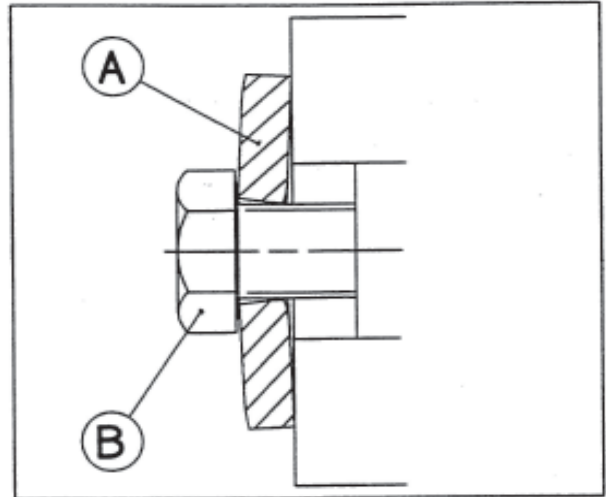

Fig. 2
Attach the frame to the cutterbar using 2 self locking screws (B) (M 16 x 50) and 2 washers (A) (diameter 16,5 x 60) as shown in photo 2 and fig.2. **Torque : 30 daNm / 220 ft.lbs.**
- Fix the inner deflector shield (S) (photo 8 A) using 3 cup square bolts (T) (M 10 x 20), 3 plain washers (diameter 11 x 24 x 2) and 3 self locking nuts (M 10). To assemble the shield (S) easily, install all of the bolts (T) into place before tightening them.
- Attach the outer disc with cone using 4 hexagon screws (M 12 x 20), 4 spring washers (conical centre part towards the top) and, if necessary, a shim plate (code 568 071 00) (see page 29, fig. 2), so that its largest diameter is positioned at a right angle in relation to the adjacent disc (see pictorial opposite).